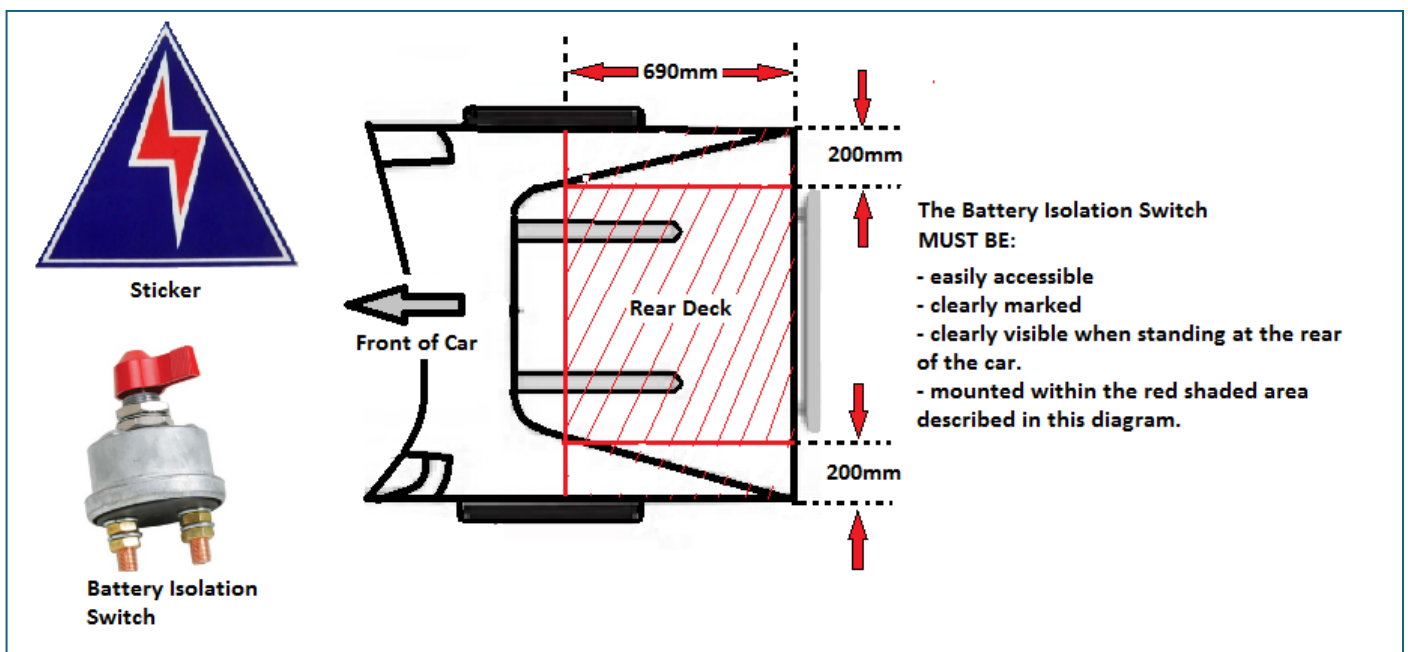

Figure 21
- *Be securely mounted to the rear deck and placed no further than 690mm from the back edge of the rear deck and greater than 200mm in from where the sail panels meet the rear deck (Figure 21).*